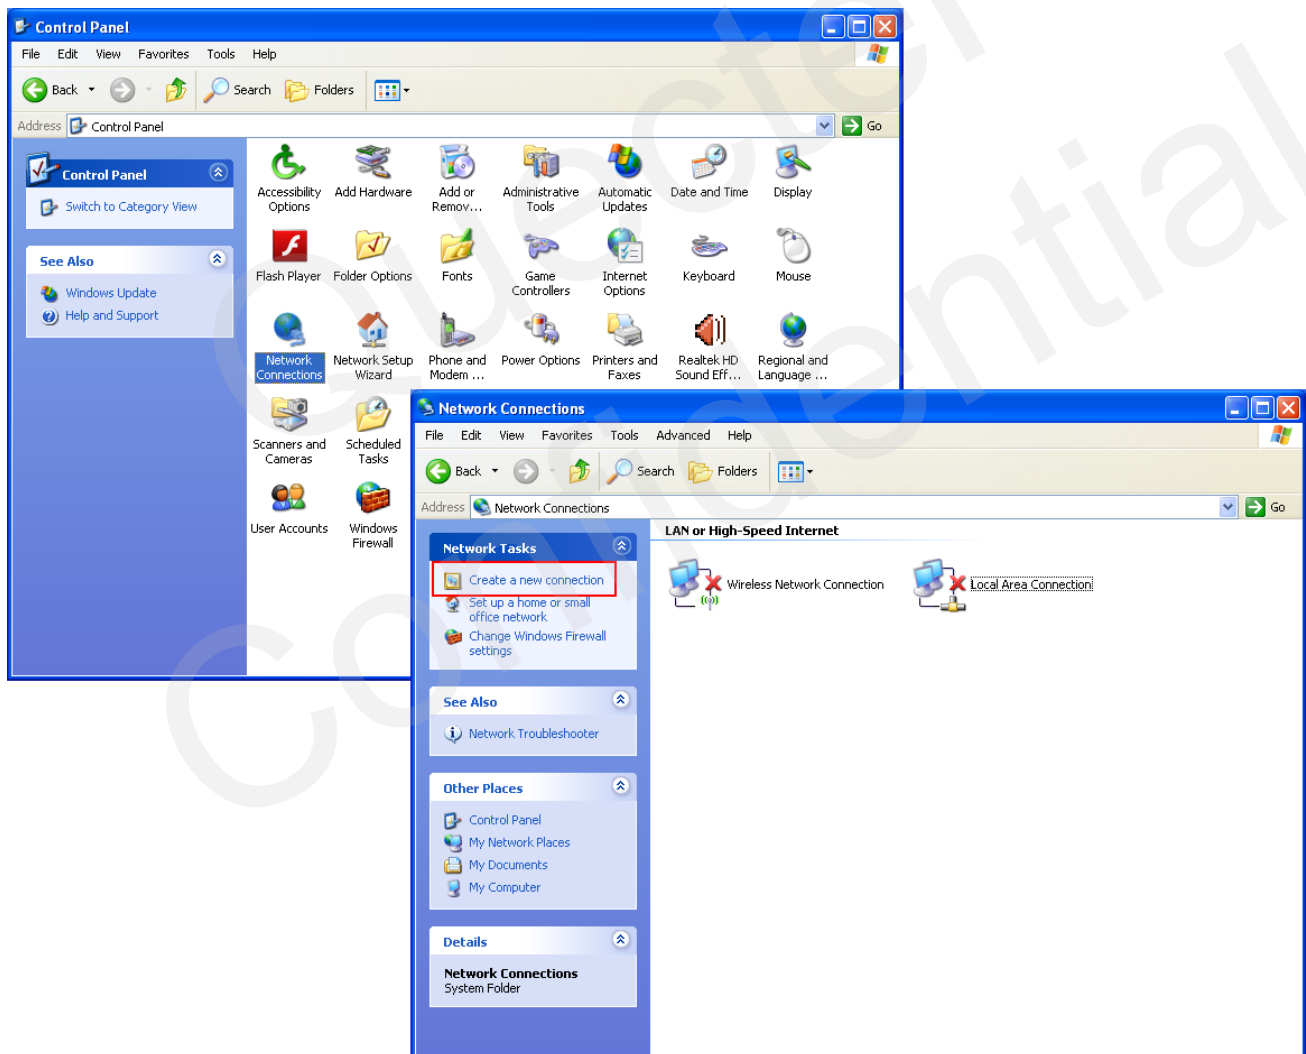

Figure 10: Create a New Connection
1. Open **Control Panel** and double click **Network Connections**, and then click **Create a new connection** from the right list of Network Tasks. Refer to *Figure 10*.